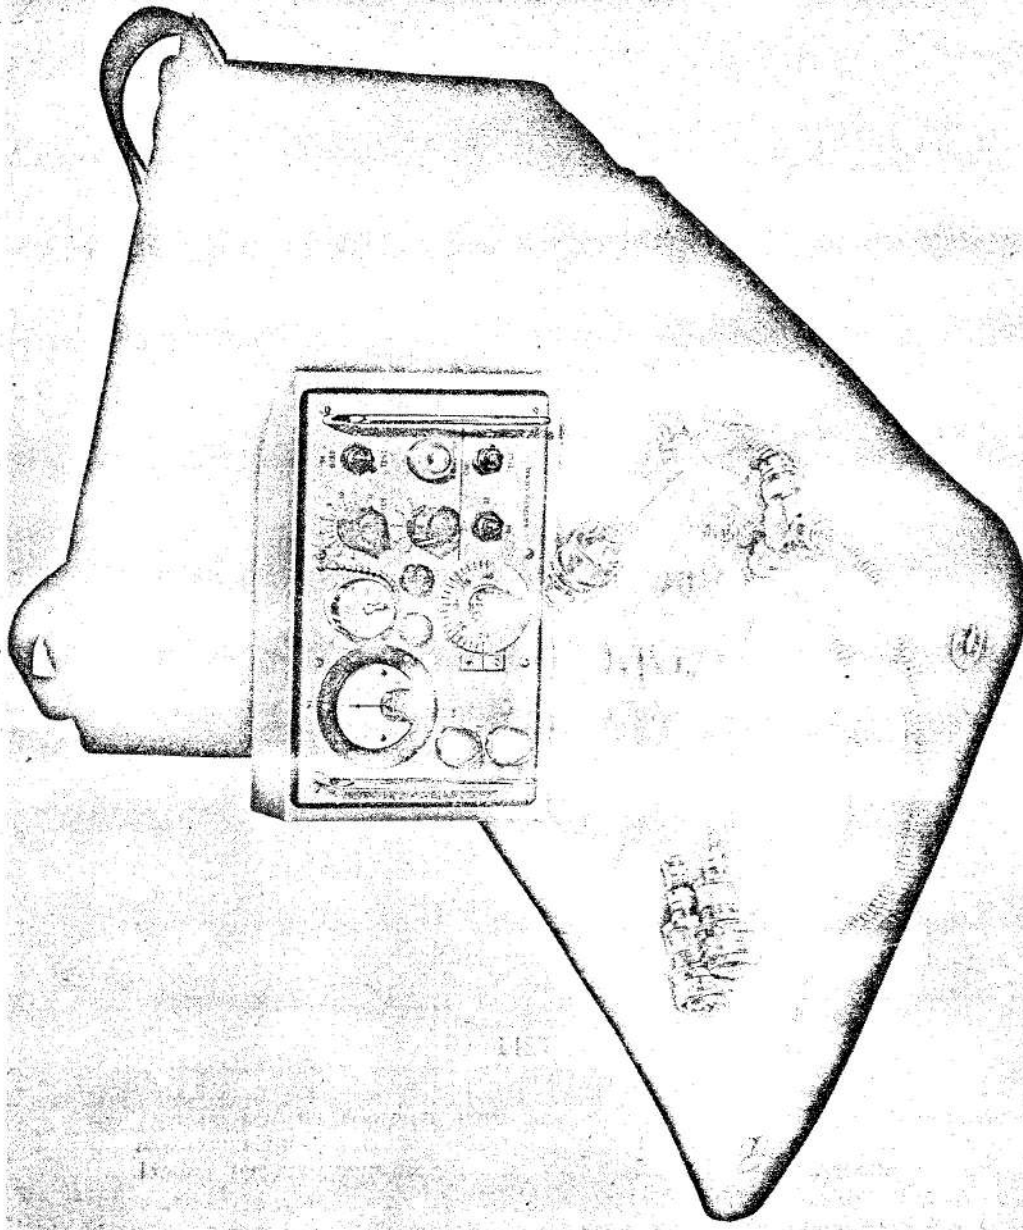

Fig. 1. 1st line test set complete with case and connectors
1. The Sea-Vixen auto-throttle 1st line test set (fig. 1) Ref. No. 26FY/95399 is a portable unit which provides facilities for first line servicing of the units comprising the auto-throttle system.